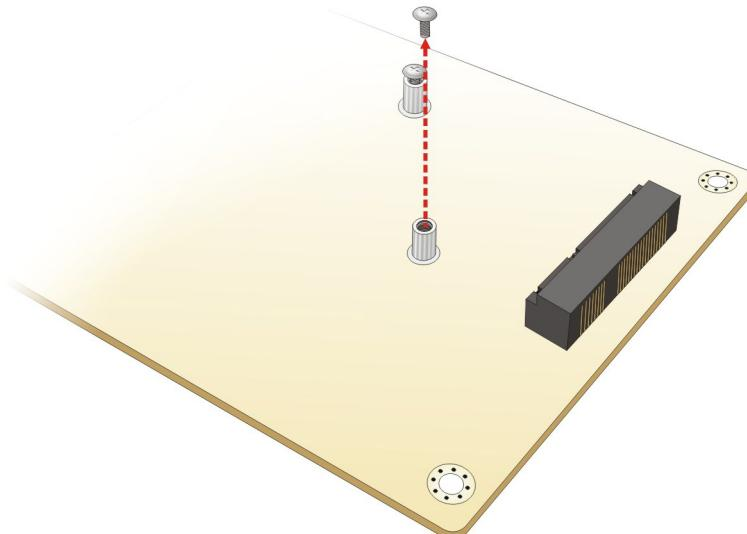

Figure 4-6: Removing the Retention Screw
Step 2: **Remove the retention screw.** Remove the retention screw as shown in **Figure 4-6.**